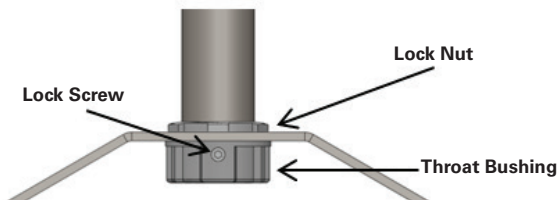

Figure 3
2. Thread the lock nut onto the appropriate 3/4" NPT conduit all the way up the threads, see figure 3.
3. Place the luminaire onto the conduit using the hole located in the center of the pendant mount bracket. Install the throat bushing and tighten to 42 ft-lbs. Rotate the luminaire to the proper alignment before securely tightening the locknut (hand tight plus a quarter turn). Tighten lock screw in the throat bushing to 9 in-lbs, see figure 3.